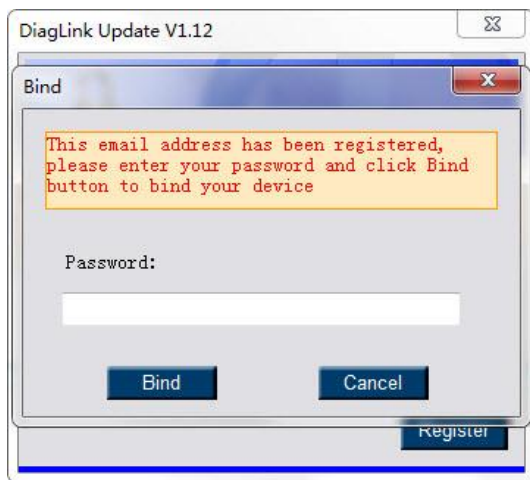

Figure 10.5
- If the email address you entered has already been registered and activated as an Autel ID, enter your password and click **Bind** to bind your device (Figure 10.5).